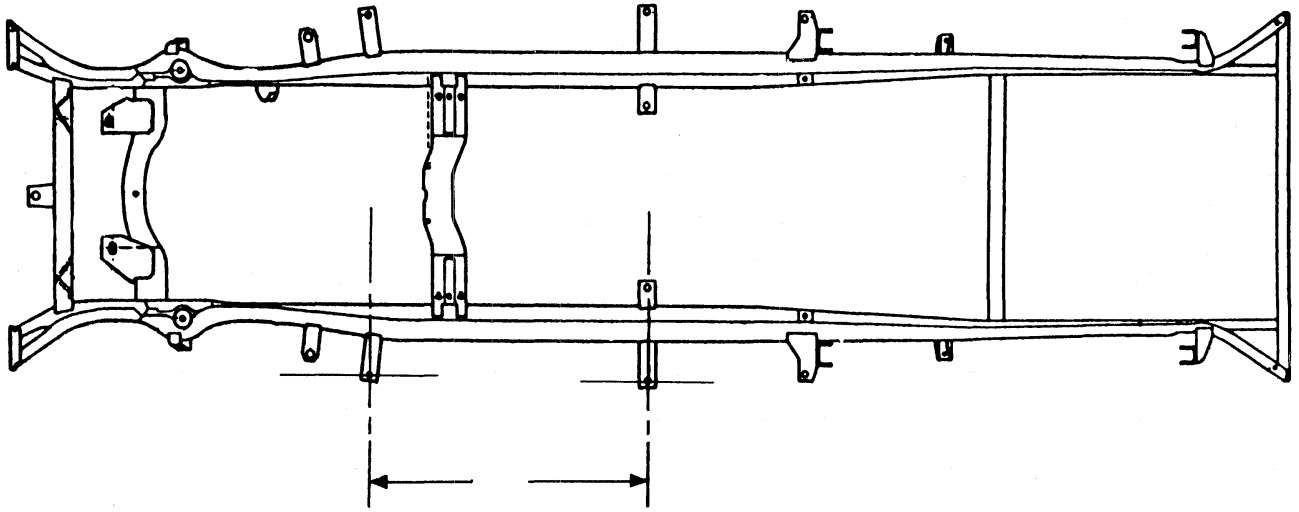

Fig. 2 Measure from the center line of the hole in the Front Spring Hanger Bracket to the center line of the hole in the Rear Spring Hanger Bracket.
- Operation #3 Weld Right Rear Spring Rear Hanger Bracket, Part Number 1734 478, to the right side of the frame and Left Rear Spring Rear Hanger Bracket, Part Number 1734 479, to the left side of the frame 54.47 inches from the Rear Spring Front Hanger Bracket. Measure as indicated in Fig. 2. Make a full weld all around both sides of the bracket.
- Operation #4 Weld Right Rear Spring Rear Hanger Bracket, Part Number 1829 758, to the right side of the frame and Left Rear Spring Rear Hanger Bracket, Part Number 1829 759, to the left side of the frame 55.90 inches from the Rear Spring Front Hanger Bracket. Measure as indicated in Fig. 2. Make a full weld all around both sides of the bracket.
- Operation #5 Weld Right Rear Spring Rear Hanger Bracket, Part Number 1734 482, to the right side of the frame and Left Rear Spring Rear Hanger Bracket, Part Number 1734 483, to the left side of the frame 57.39 inches from the Rear Spring Front Hanger Bracket. Measure as indicated in Fig. 2. Make a full weld all around on both sides of the bracket. In addition, make a gusset 1.38" long, .76" wide, and .187" thick from locally available material and weld in place as shown in Fig. 3.
- Operation #6 Weld Right Rear Spring Rear Hanger Bracket, Part Number 1829 768, to the right side of the frame and Left Rear Spring Rear Hanger Bracket, Part Number 1829 769, to the left side of the frame 58.77 inches from the Rear Spring Front Hanger Bracket. Measure as indicated in Fig. 2. Make a full weld on both sides of the bracket.